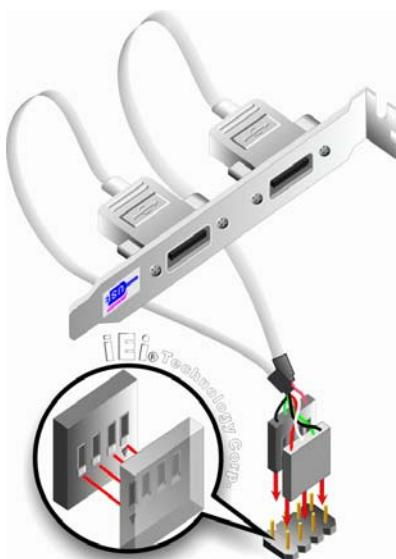

Figure 5-12: Dual USB Cable Connection
Step 3: Insert the cable connectors. Once the cable connectors are properly aligned with the USB connectors on the KINO-690S1, connect the cable connectors to the onboard connectors. See **Figure 5-12**.